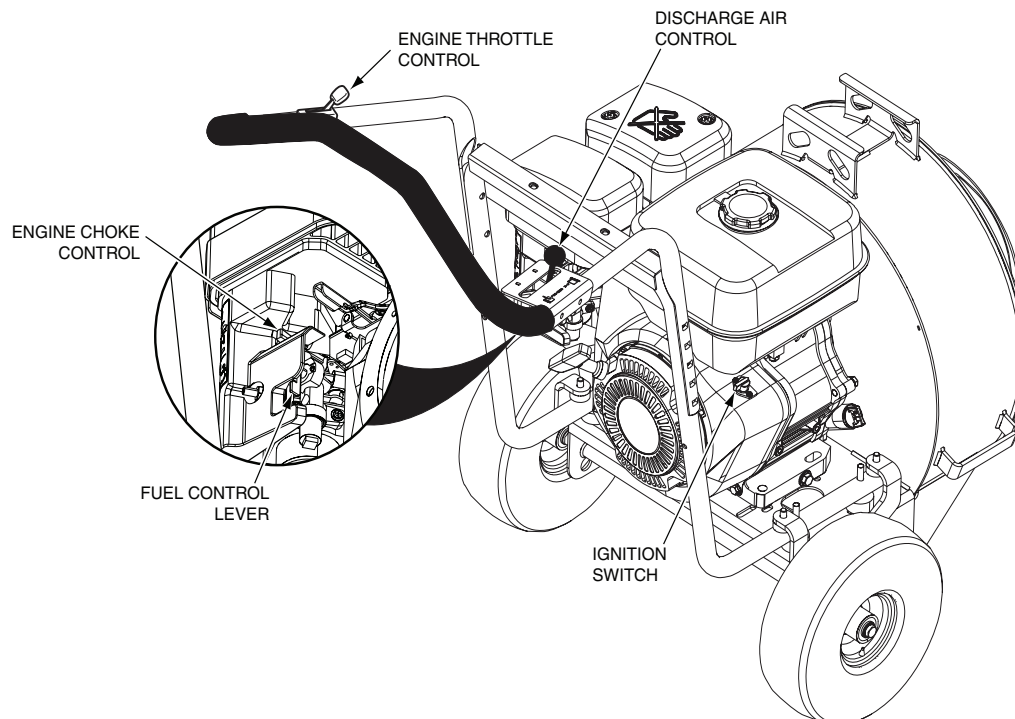

Figure 4-1. Controls and Instruments
1. **Ignition Switch (Figure 4-1).** The ignition switch is used to start the engine. Turn the knob to the on position before pulling the recoil starter.
2. **Engine Choke Control (Figure 4-1).** Used to start a cold engine.
3. **Engine Throttle Control (Figure 4-1).** Used to control the engine speed. Pushing the lever forward increases engine speed. Pulling the lever back decreases engine speed. Full back position is the IDLE position.
4. **Fuel Control Lever (Figure 4-1).** Used to control the fuel supply to the engine.
5. **Discharge Air Control Lever (Figure 4-1).** Used to control the discharge air stream. Lower air stream helps loosen up and move heavy debris such as wet leaves. Higher air stream helps prevent material blow back.
1. Be sure the fuel control lever, located on the left side of the engine, is completely open. See Figure 4-1.